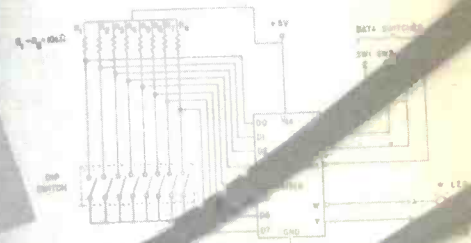
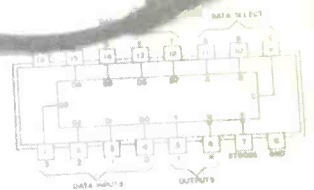

Fig. 16 Circuit for Experiment 2
Fig. 17 Pin diagram for 74151A.
Figure 16 shows the circuit diagram for this experiment. You'll note that the numbers for the IC aren't included on the diagram. For those values, you should refer to Fig. 17, which shows pertinent 74151A data. For the data inputs, you'll use an eight-pole DIP switch in conjunction with 10-k Ω pull-up resistors. For the Select and Strobe lines, finally, you'll use the trainer switches.
2. Connect the eight 10-k Ω resistors to the DIP switch as shown in Fig. 16. Connect the opposite end of each of these resistors to the +5V supply. The second terminal of each switch is to be connected to trainer ground.
4. Next, connect the trainer data switches to the Select and Strobe lines of the IC using Fig. 17 as a guide. Initially, set SW 1 to the 0 position.